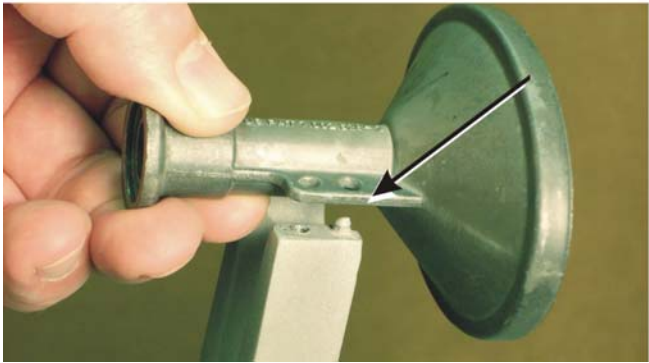

Figure 23: Aligning the feed horn on the adapter bracket
3. Place the feed horn on the feed horn support bracket so that the holes on either side of the feed horn fit into the corresponding pins on the bracket, as shown in Figure 23.